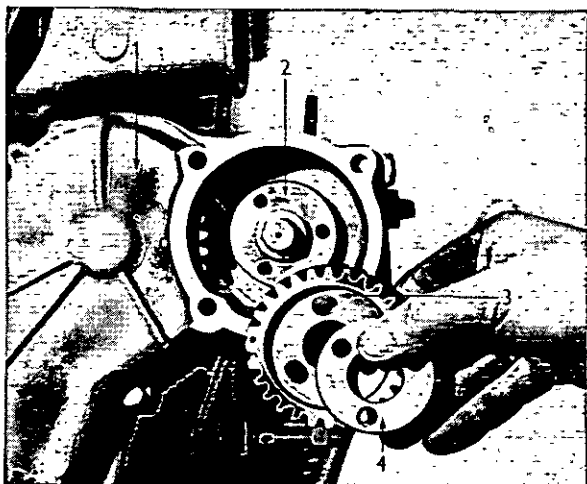

Fig. J.3. Removing Auxiliary Drive Gear.
6. Remove the retaining plate securing the auxiliary drive gear to the auxiliary drive shaft hub and withdraw the gear (Fig. J.3).